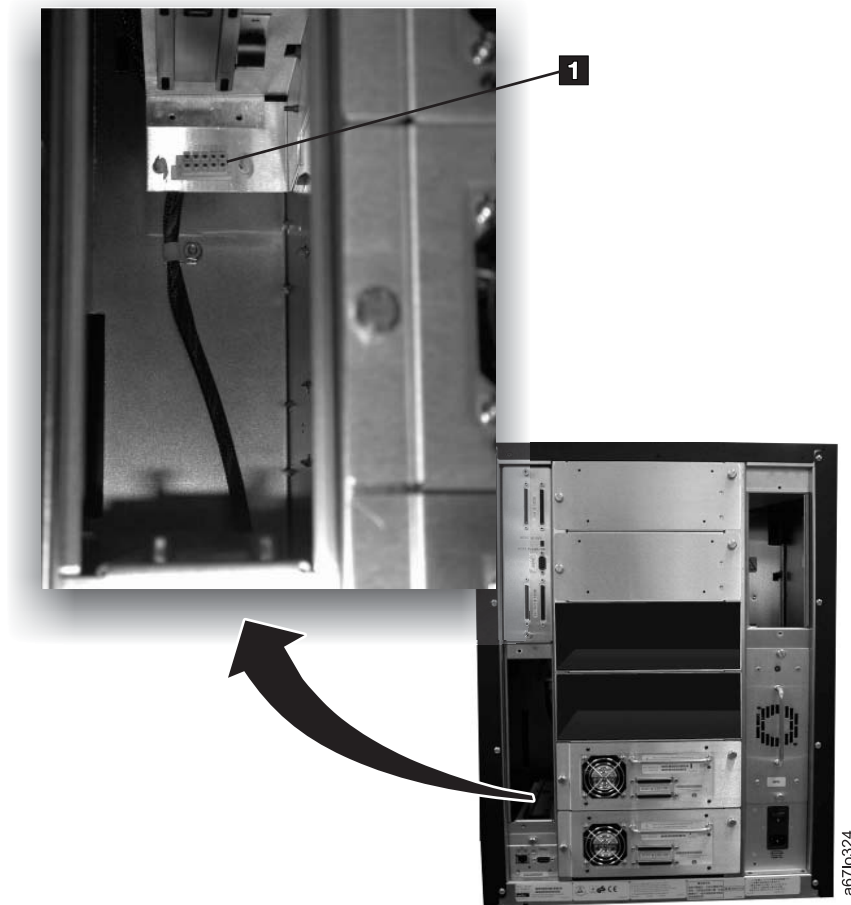

Figure 8-35. Disconnecting the accessory bay cable from the Fibre Channel bracket sub-assembly. Figure shows a converted library.
6. Disconnect the Accessory Bay Cable (**1** in Figure 8-35) from the Fibre Channel Bracket Sub-Assembly. If necessary, cut the cable connector locking tabs.